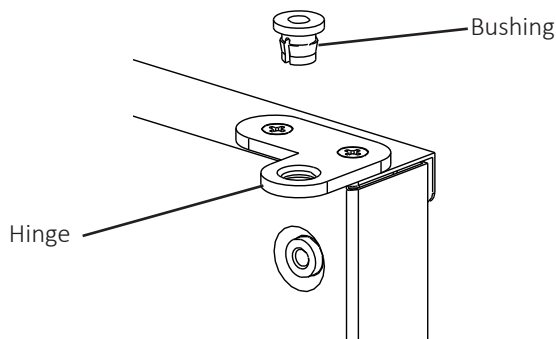

Fig. 9
- 7) Remove the bushings from hinge (C1) and hinge (C2) (the hinges attached to the door) (See Fig. 9).